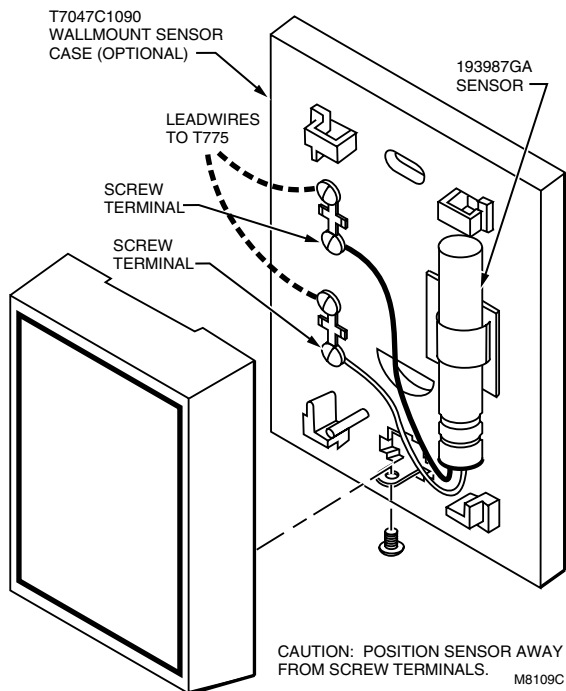
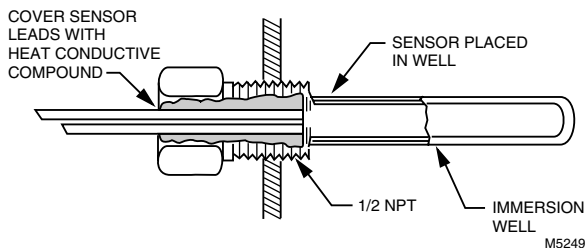

Fig. 3. Sensor mounted on wall.
Fig. 4. Sensor inserted in immersion well.
Mount the sensor on a wall or panel for sensing space temperature (Fig. 3); strap it to a pipe, or insert it into a well (Fig. 4) for hot/cold water sensing; or tape it to a standard cap or bulb holder for duct air sensing. To prevent moisture or condensation entering the sensor through the leadwire holes, mount the sensor with leadwires exiting the bottom of the sensor.
- 5 Position sensor as shown in Fig. 3; assemble cover and tighten cover screws.
Refer to Fig. 4 for locating the appropriate power inputs, remote sensor inputs, relay, modulating output terminals, contact closure input, and sensor selection switch. Access the terminals through standard conduit knockouts (A-C) located around the enclosure perimeter.